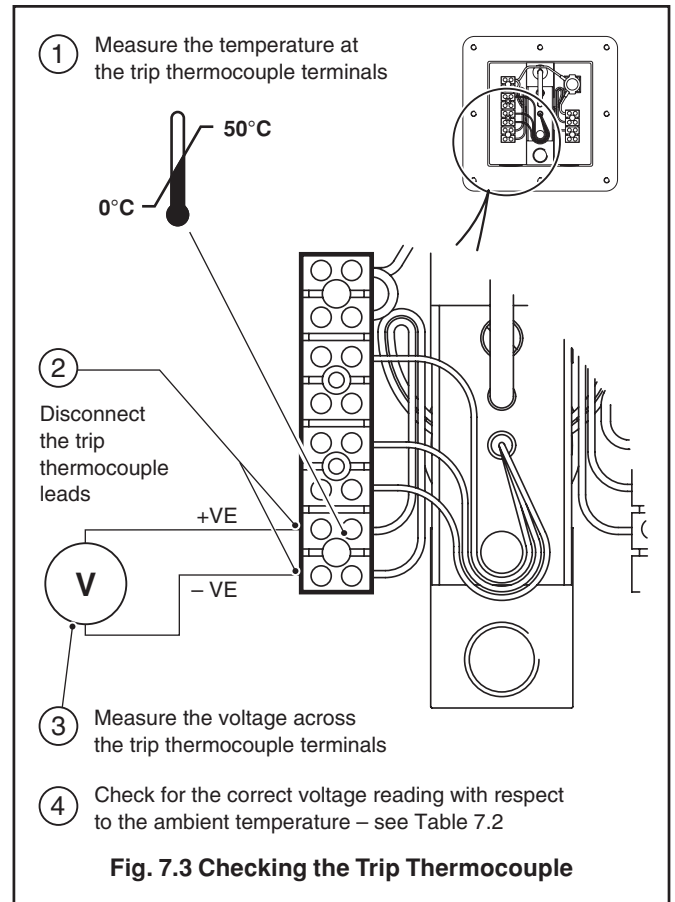

Fig. 7.3 Checking the Trip Thermocouple
7.2 Checking the Trip Thermocouple – Fig. 7.3
- b) Check the trip thermocouple voltage as shown in Fig. 7.3.